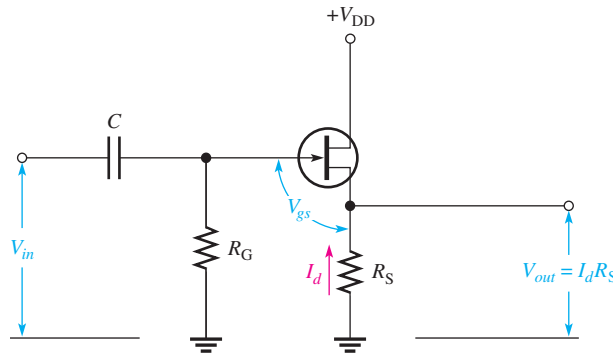

FIGURE 50
A **common-drain (CD)** JFET amplifier is shown in Figure 50 with voltages indicated. Self-biasing is used in this circuit. The input signal is applied to the gate through a coupling capacitor, and the output is at the source terminal. There is no drain resistor. This circuit, of course, is analogous to the bipolar emitter-follower and is sometimes called a *source-follower*.
Voltage Gain As in all amplifiers, the voltage gain is $A_v = V_{out}/V_{in}$. For the source-follower, V_{out} is $I_d R_S$ and V_{in} is $V_{gs} + I_d R_S$, as shown in Figure 50. Therefore, the gate-to-source voltage gain is $I_d R_S / (V_{gs} + I_d R_S)$. Substituting $I_d = g_m V_{gs}$ into the expression gives the following result: